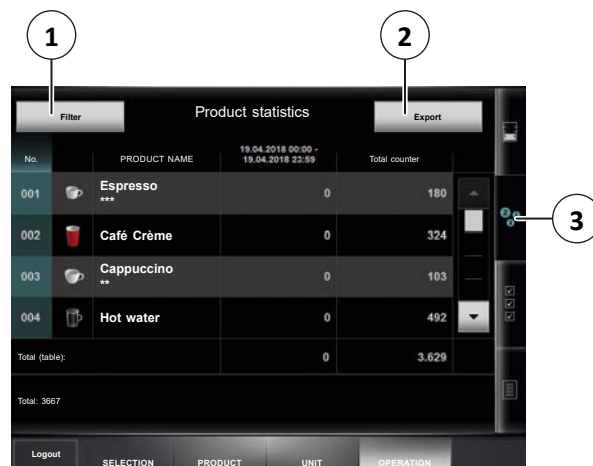

Fig. 37: Product statistics
5. Insert a suitable USB stick (1) into the USB slot (2).
7. Press the “Export” button (2) (see Fig. 37).